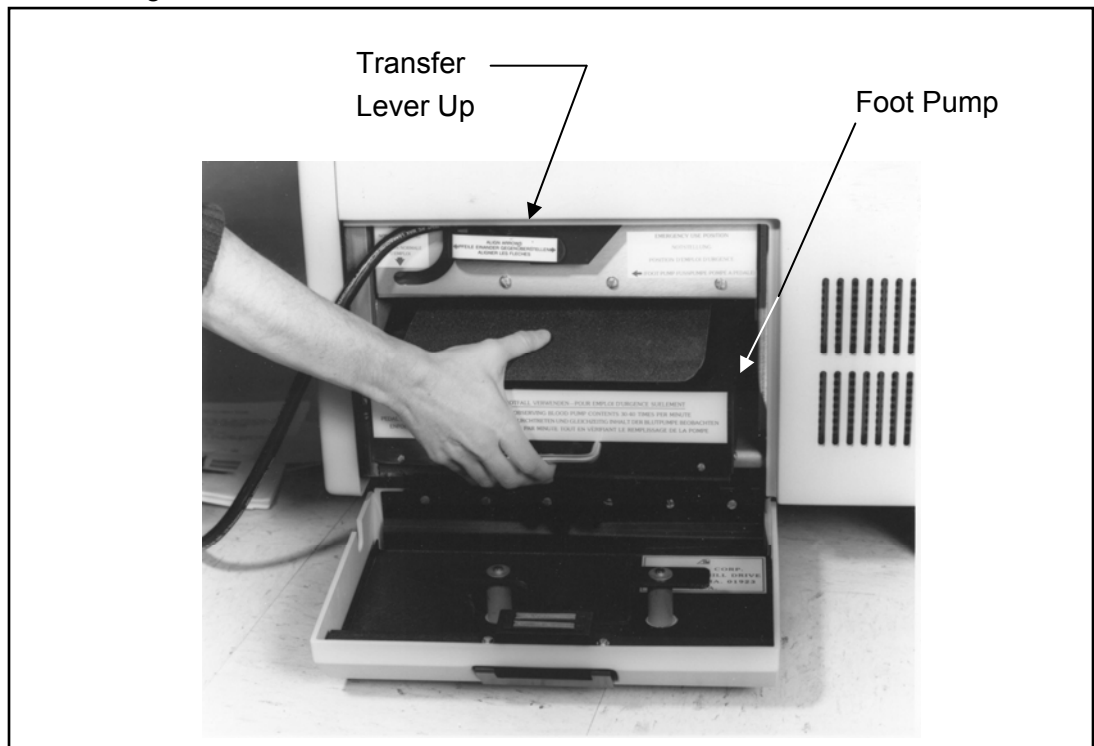

Figure 4-1. Removing Foot Pump
- b) Move the transfer lever up 1/4 turn counter-clockwise to the horizontal position. Grasp the foot pump by hand, squeeze the pedal closed and pull it out of the slot, as shown in Figure 4-1.